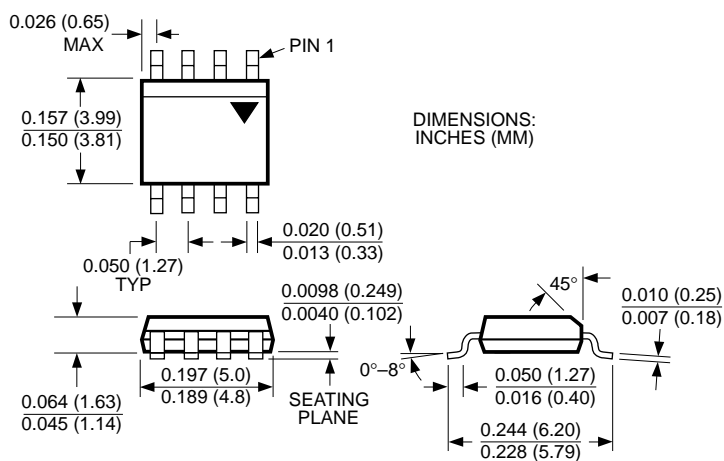

**Figure 13: Push-Pull Driver**
**Push-Pull Driver With No Cross-Conduction** (Figure 13) As the turn-off time of the MIC5014/15 devices is much faster than the turn-on time, a simple push-pull driver with no cross conduction can be made using one MIC5014 and one MIC5015. The same control signal is applied to both inputs; the MIC5014 turns on with the positive signal, and the MIC5015 turns on when it swings low.